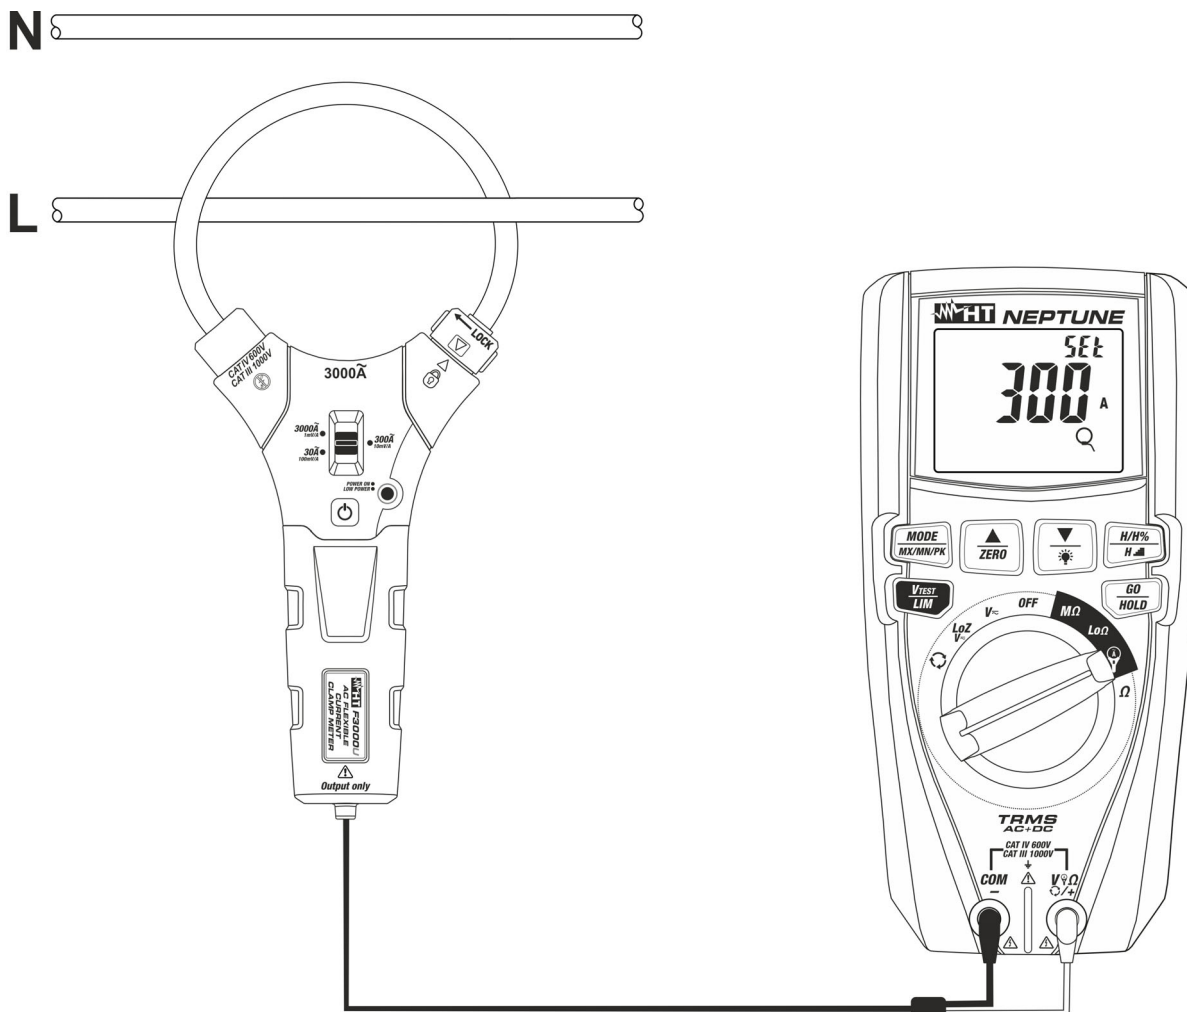
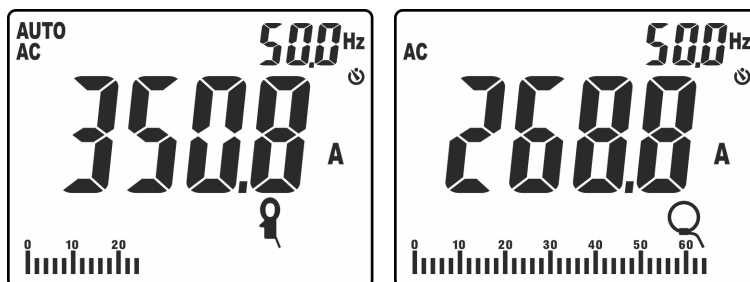

Fig. 36: Use of the instrument for current measurement with clamp transducer
Fig. 37: Result of AC current measurement with standard and flexible clamp
8. Insert the cable into the center of the jaws (see Fig. 36). The value of current is shown in Fig. 37